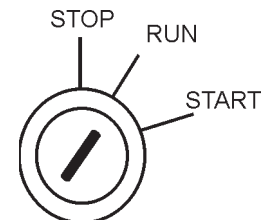
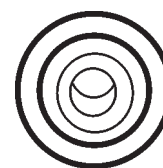
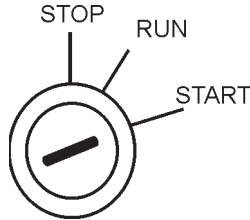

Figure 41. Ignition Switch Pre-Heat (Run Position)
Figure 42. Pre-Heat Indicator Lamp
Figure 43. Ignition Switch (Start Position)
- In warm weather conditions, skip to step 3. Preheat the engine **glow plugs** by turning the ignition key (Figure 41) to the **RUN** position. When the preheat lamp (Figure 42) illuminates, proceed to step 3.
- Turn the ignition key to the **START** position (Figure 43). Once the engine starts, release the ignition key and allow it to return to the **RUN** position (Figure 41).